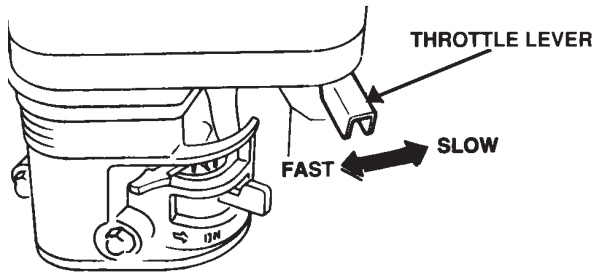

Figure 23. Throttle Lever
7. Place the **throttle lever** (Figure 23) halfway between **FAST** and **SLOW** for starting. All sawing is done at full throttle. The engine governor speed is factory set to ensure optimum blade operating speeds.